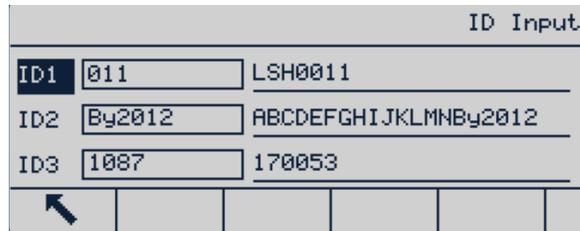

Figure 3-47: ID Input Screen
7. Now, in the ID Input screen, when an index value is entered for ID1, ID2 or ID3, the corresponding ID description will appear automatically (see Figure 3-47).